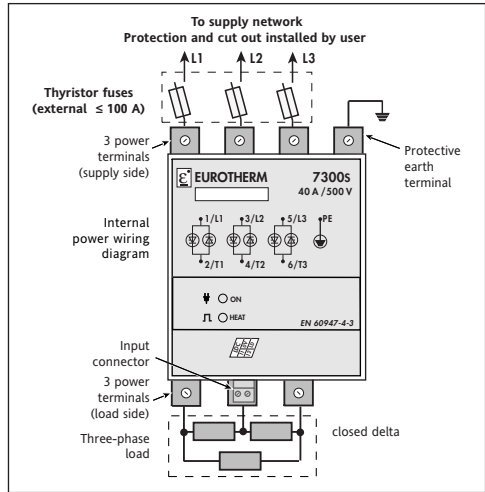

Figure 2-8 Connecting a three-phase load using Closed Delta configuration
- closed delta (3 connection wires, code 3D), figure 2-8